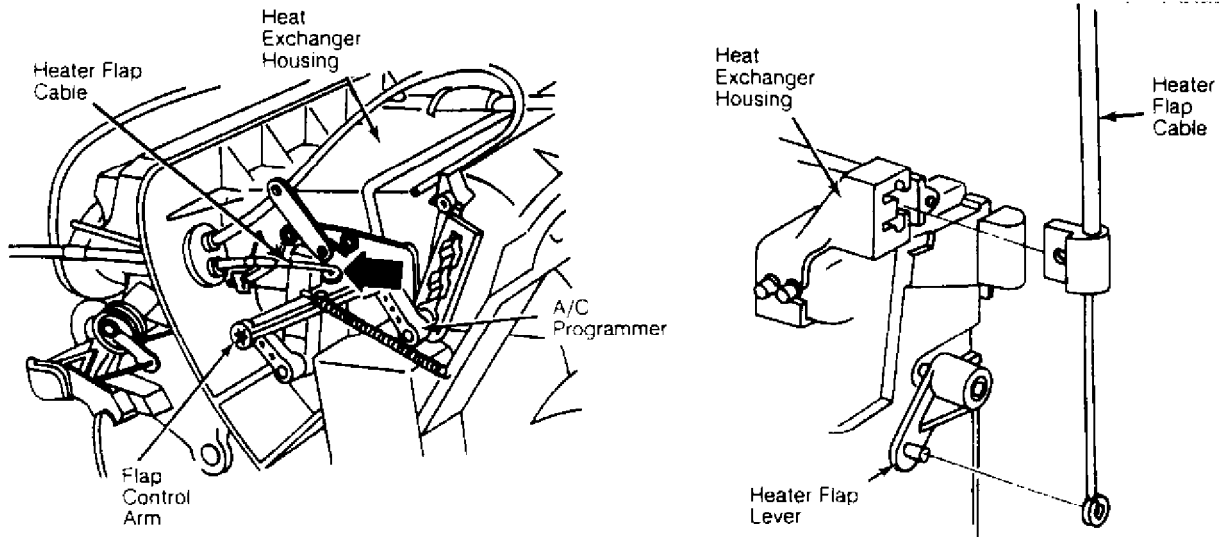

Fig. 9: Heater Flap Control Cable Adjustment
1) Disconnect heater flap cable at A/C programmer. Inner cable end must not come up against lever arm. See Fig. 9. Loosen cable clip on heat exchanger housing and start engine.